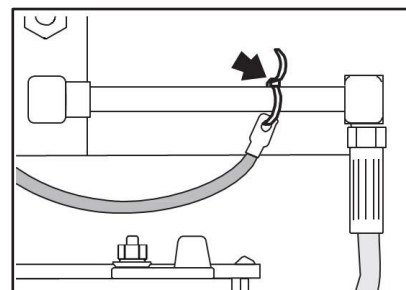
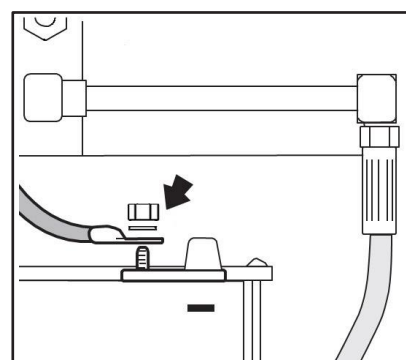

Figure 20
Figure 21
2. Clip the tie-wraps which hold the battery ground cable to the hydraulic pipe assembly (Figure 20). Attach the cable to the ground (negative) terminal of the battery (Figure 21).